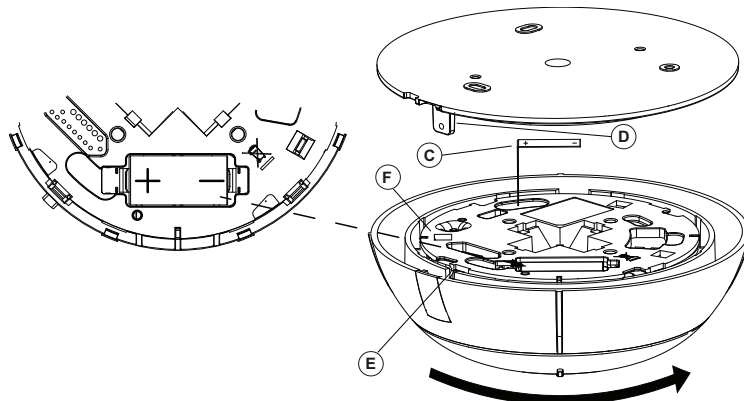

Figure 5. Attaching the detector
3. Align the bracket tabs with the detector slots and rotate the detector clockwise. Verify that it is securely attached (see Figure 5).